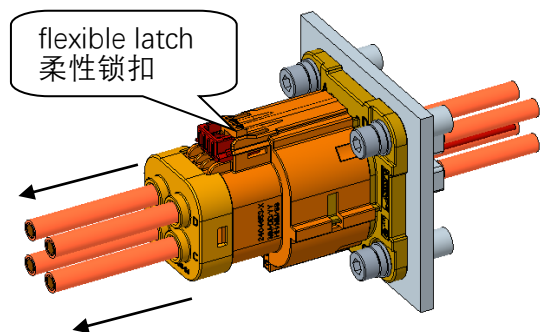

Figure 12
2. Fully depress the thumb actuation pad on the plug connector flexible latch. See Figure 12.
完全按下母端连接器柔性锁扣的拇指驱动垫。见图 12。